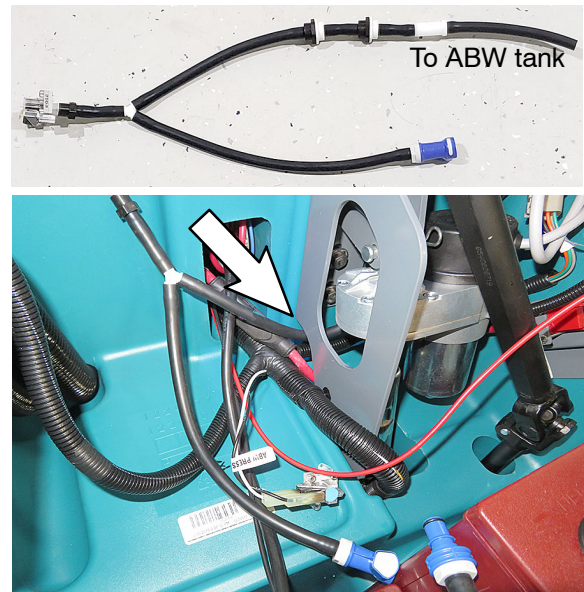

Fig. 7
9. Install the new battery water delivery assembly to the ABW tank. Route the delivery hose under the actuator bracket as shown (Figure 7).